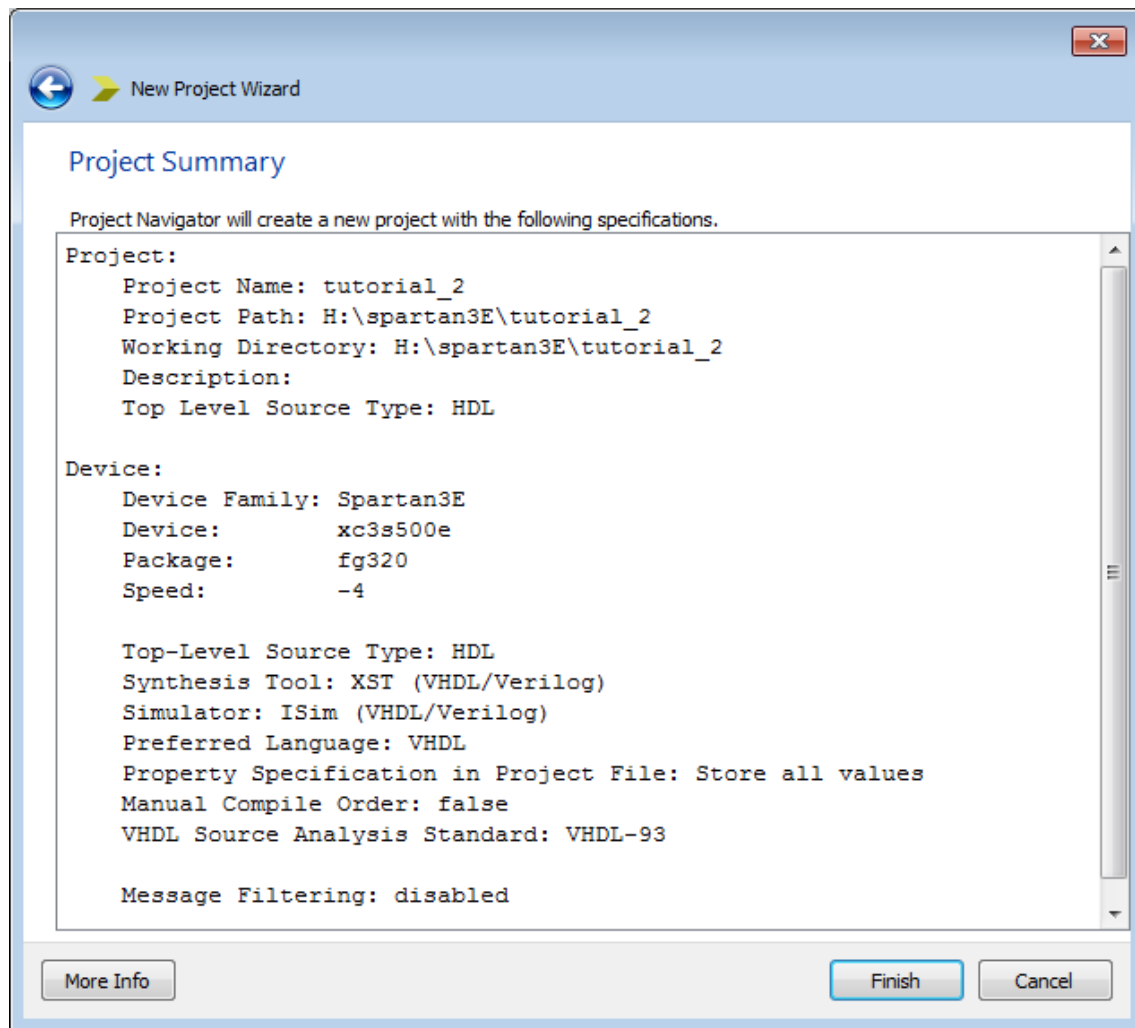

Figure 5.4: New Project Wizard, Project Summary Page.
7. Click **Next** to move to the **Project Summary** page, which will appear as shown in Figure 5.4.